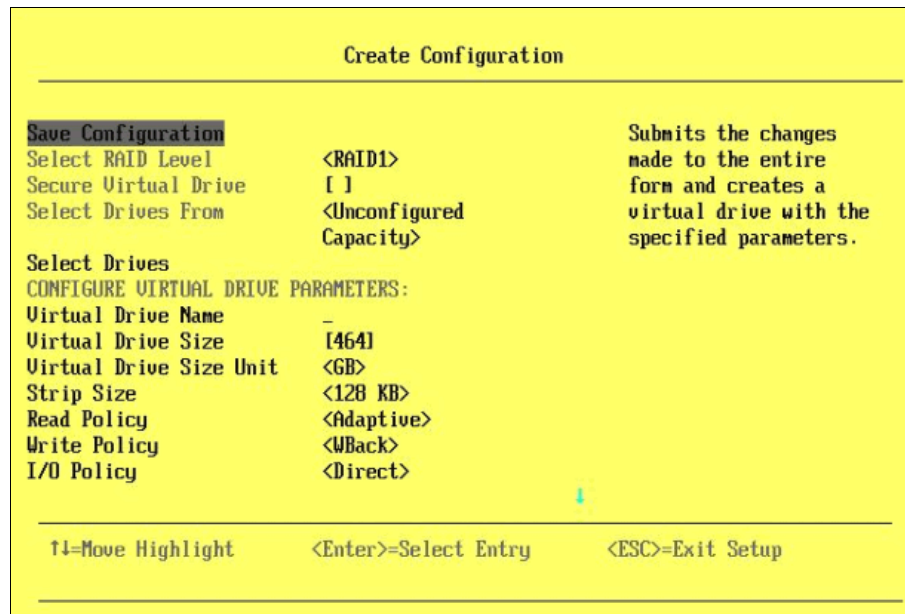

Figure 2-27 Creation Configuration pane: Saving the configuration
13. Select **Save Configuration** as shown in Figure 2-27.